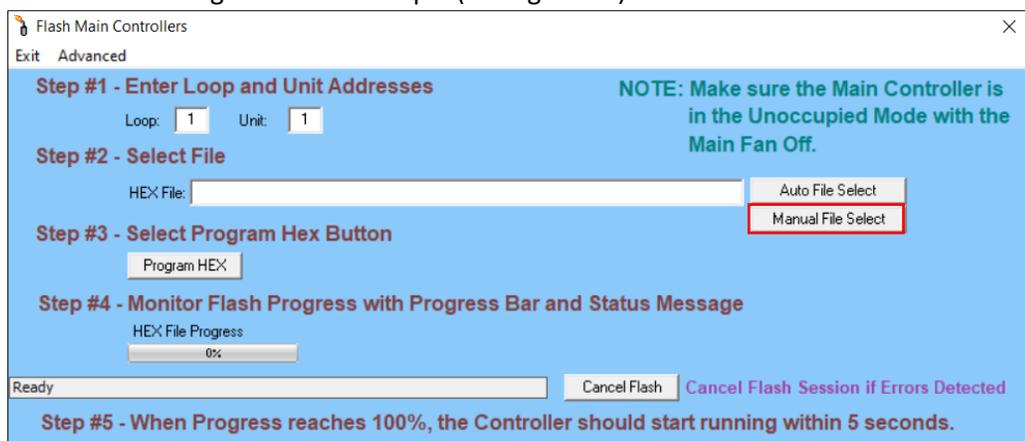

Figure 33: Selecting The .hex File
2. Select the “Manual File Select” from Step #2 (see figure 33). This will open a file search window. Locate the .hex file that Flō has provided you and left-click the “Open” button. You should now see the full file name and folder path listed in the large text box in step 2 (see figure 34).